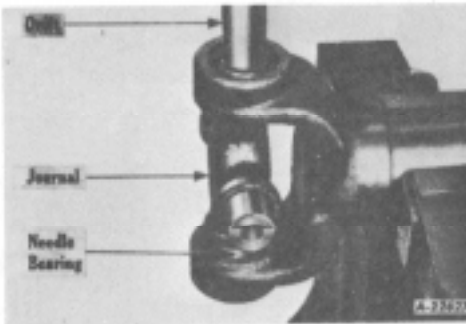

Fig. 19
- f. Turn the yoke or joint over and tap on the exposed end of the journal or cross end to remove the remaining needle bearing, Fig. 19.